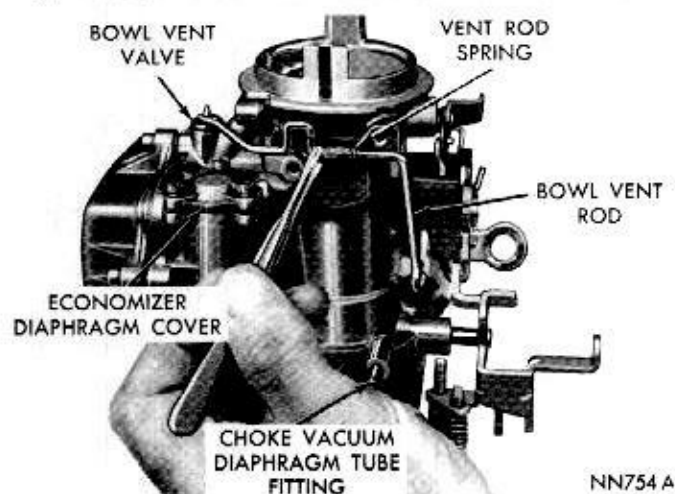

Fig. 3—Removing or Installing Bowl Vent Rod
(3) Remove choke vacuum diaphragm, link and bracket assembly. Disengage link from slot in choke lever; place to one side to be cleaned as a special item. (Figs. 1 or 2). **As the vacuum diaphragm bracket is being removed, the bowl vent valve rod and spring will fall out. (Fig. 3).**